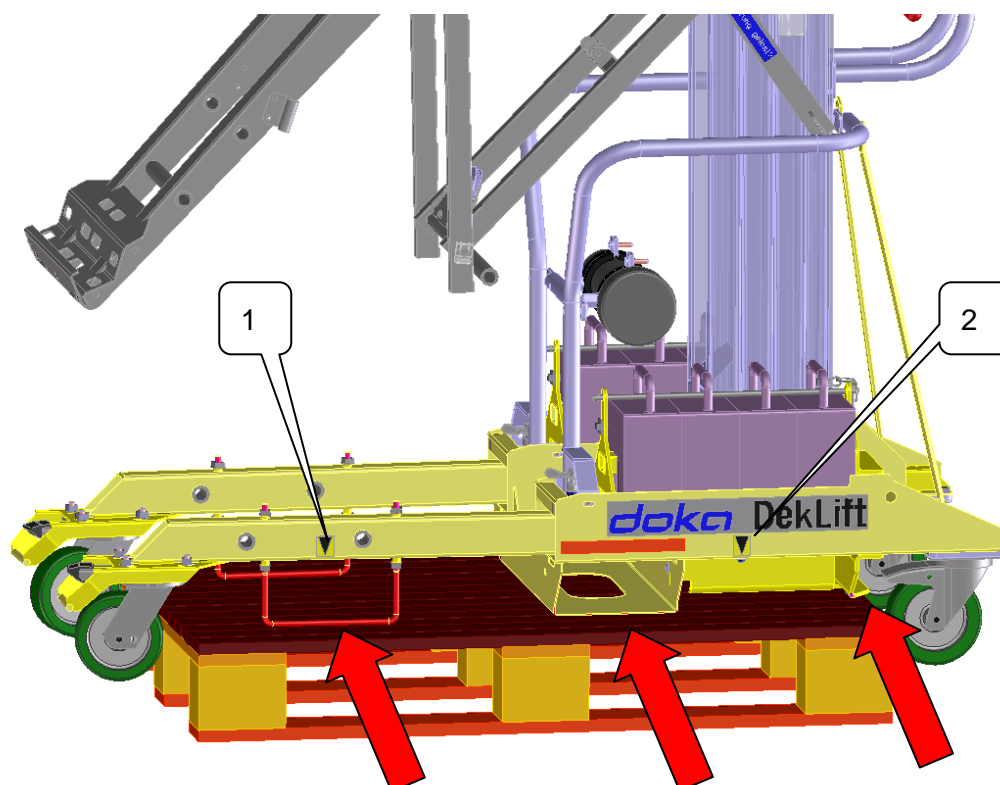

Abb. 36 Attachments for transport - standing
The DekLift 4.50m lies on points marked with arrows on a Euro pallet and lashed down with the aid of at least two lashing straps at point (2) and (3) fig. 36.